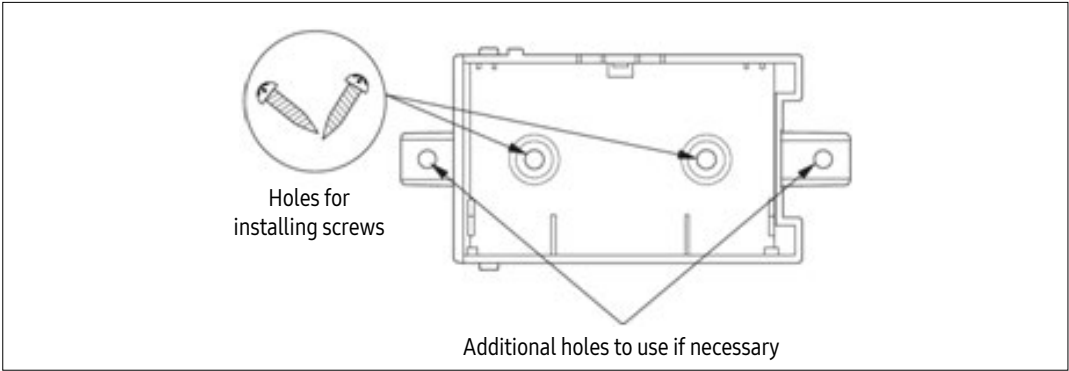

Figure1. Mounting the circuit board case
- 1. Mount the circuit board case with screws (provided) inside the indoor unit control box or at another appropriate location (Figure 1).